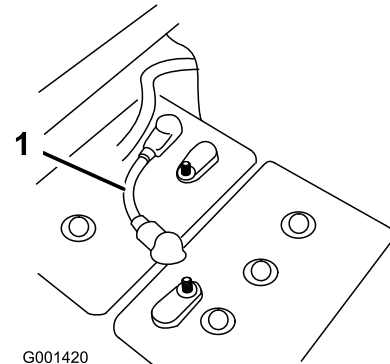

Figure 2
4. Remove a short battery cable linking any two batteries in the battery bank to remove power from the system (Figure 2).